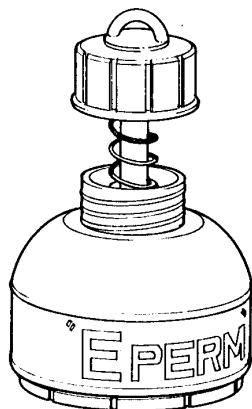

Figure 7: E-PERM detector
- **Electret Ion Chamber** – This method uses a special plastic canister that contains a disk called an “electret” with an electrostatic charge (see **figure 7**). It is exposed and the change in the electret’s charge read to determine the radon level. There are two versions, one for short-term tests of a few days or weeks, and one for long-term tests of several weeks or months.